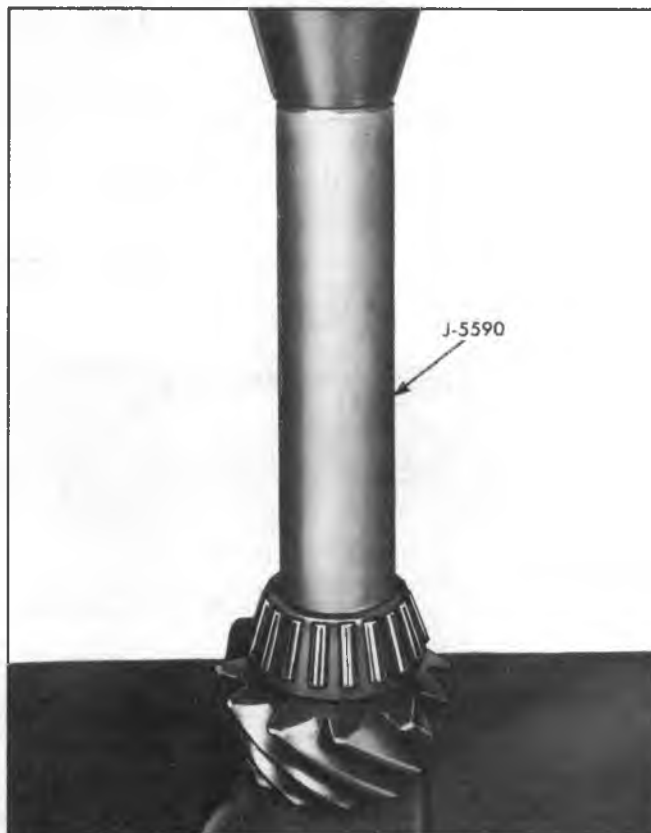
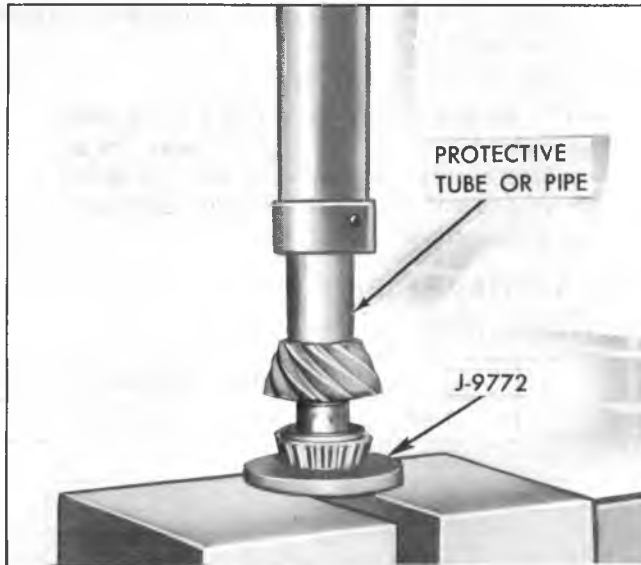

Fig. 15B—Drive Pinion Cone and Roller Assembly Installation (Light Duty)
Fig. 16B-Drive Pinion Cone and Roller Assembly Installation (Heavy Duty)
7. Install new cone and roller assembly, using Tool J-5590 for light-duty axle. See Figure 15B. Use Tool J-9772 for heavy-duty axle. See Figure 16B. Press cone against shim and rear face of pinion.